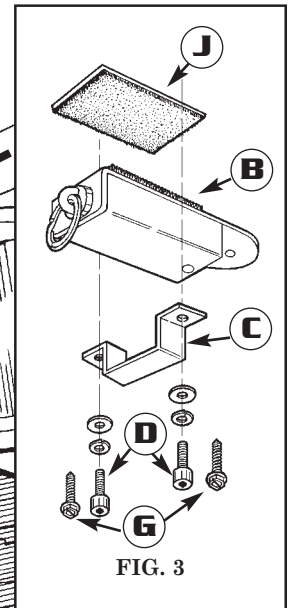

FIG. 3
6. Replace the junction box (B) and attach the bracket (C) using hex socket head capscrews (D) or sheet metal screws (G) provided (Fig. 3).